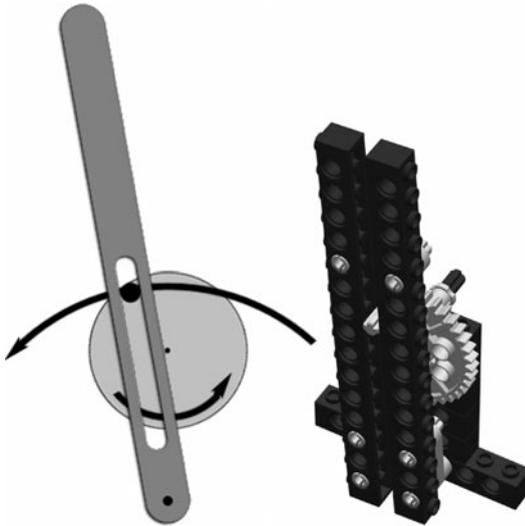

Fig. 14-22. Quick-return.
**Try This:** A gear with a post on it can be used to drive other mechanisms; for example, in a *quick-return* (Fig. 14-22), the gear pushes the link back and forth. At the top of its arc the post moves the link slowly, along a large radius. At the bottom of its arc the post moves the link quickly since it is closer to the link's axis of rotation.